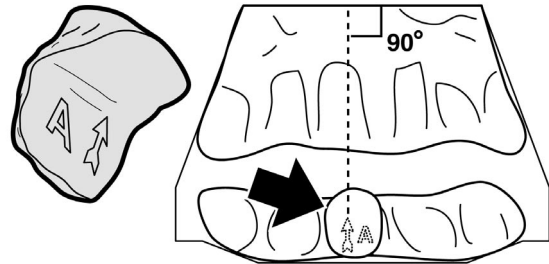

Figure 6. Front Row "Coal A"
7. Hold coal 'A' upright with the arrow pointing to the top. Locate coal 'A' as shown in figure 6.